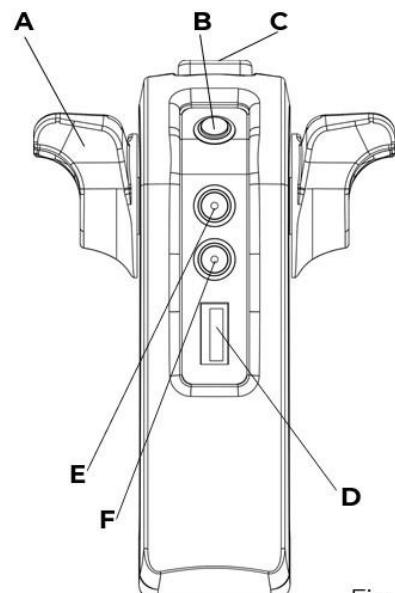
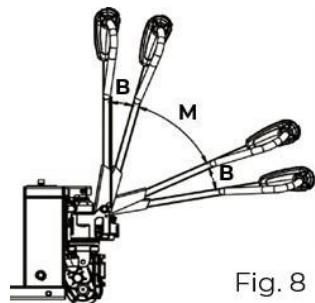
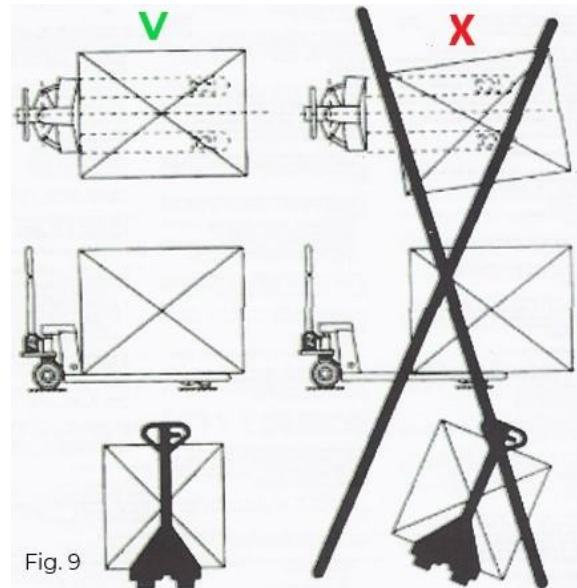

Fig. 7
Fig. 8
Fig. 9
If necessary, unlock the emergency stop, then move the control lever into the M range (fig. 8) to activate control of the driving lever (A, fig. 7). Move the driving lever (A, fig.7) forward to drive forward and backward to drive backwards. The more the lever is pressed, the higher the driving speed.
Drive the pallet truck slowly to the front of the pallet. Then drive the forks of the pallet truck under the pallet until the end of the forks. (V, fig.9). Lift the charge by pressing the Lifting button (E, fig.7). Make sure that the load is located centered on the pallet truck, otherwise the pallet truck can tilt.
Release the driving lever (A, fig.7), the pallet truck slows down to complete standstill. **WATCH OUT!** When the driving lever is in neutral position, the pallet truck is absolutely not allowed to move. If this is not the case, the pallet truck should be decommissioned immediately until the defect has been fixed!
By moving the driving lever (A, fig.7) to the other side (from forward to reverse or vice versa), the pallet truck stops first before it starts driving the other way. **WATCH OUT!** The driving lever should automatically jump back to neutral mode when it is released. If this is not the case, the pallet truck should be decommissioned immediately until the defect has been fixed!
2. Pull the control lever all the way down (fig.8), the pallet car stops.
Press the Lowering-button (F, fig.7), make sure that one has enough free space behind it to drive the pallet truck under the load. **WATCH OUT! Never lower the load while driving!**
| If the pallet car has been clamped, you can drive the pallet car in this mode. Set: Press the emergency stop (3, fig.7). Now pull the emergency button (C, fig.8) and simultaneously hold the driving lever (A, fig.8) pressed forward and unlock the emergency stop (3, fig.7). Now you can drive the control lever in a straight position. | This mode can be set when you start maintenance or when the front-frame battery is running low, the brake is unlocked so that the pallet car can be manually moved. Set: Press the emergency stop (3, fig.7). Now hold down the horn (B, fig.8) and unlock the emergency stop (3, fig.7). The brake is now unlocked. | This allows you to adjust the speed of the pallet car down. Set: Hold down the horn (B, fig.8) and simultaneously move the driving lever (A, fig.8) forward twice. The speed has now been adjusted downwards. |
| All above settings can be reset/restored by pushing the emergency stop button (3, fig.7) and unlocking it again. | | |